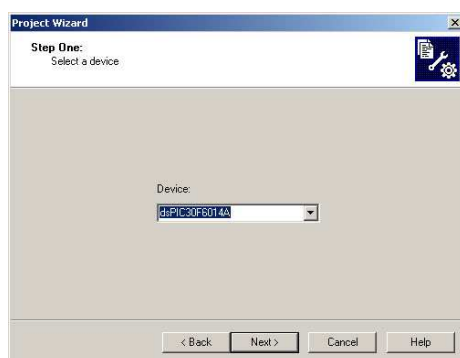

Figure 1: Project wizard, step 1, select a device.
4. In the Welcome screen, click Next> to go to the Project Wizard Step One dialog (Figure 1)